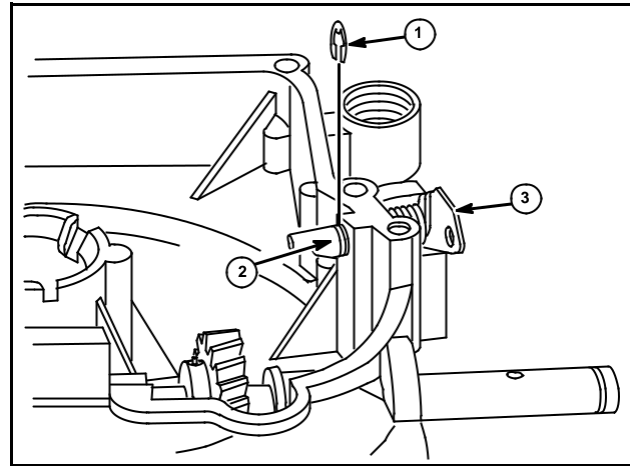

Fig. 60
1. Remove "E" ring (1) from groove in shaft (2), Fig. 60.
2. Slide control lever and shaft (3) out slowly until lever clears boss on sump.